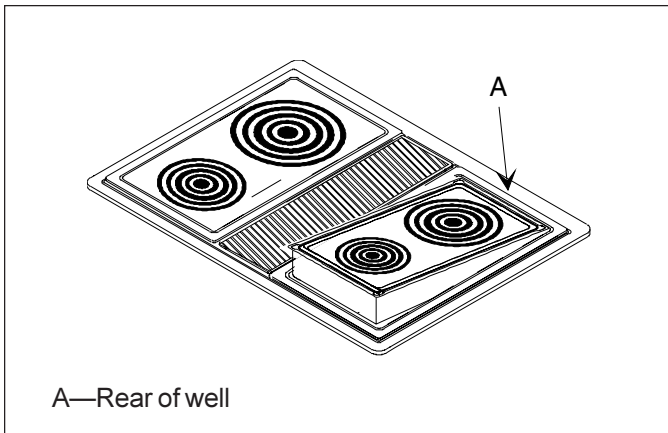

Figure 26
3. See Figure 26. Place end of module into range well with terminals facing rear of well.